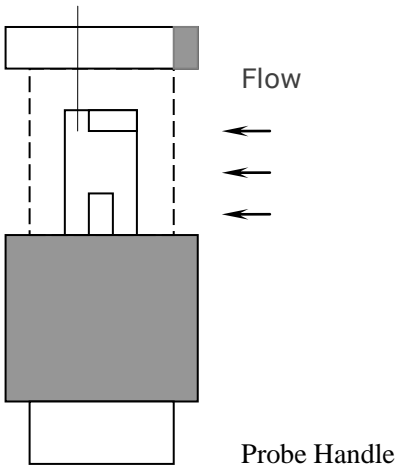
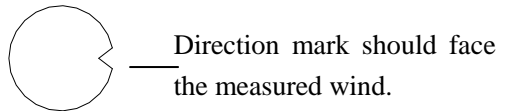

Fig.4
Fig.5
5. Slide the sensor cover to the down position, let the air velocity sensor to contact the air, refer Fig.2. Extend the telescope probe to the convenient length, refer Fig.4.
There is mark on the top of the “Sensor Head”, When make the measurement, then this mark should against the measured wind, refer Fig. 4, Fig5. When sensor head face against the measurement air, then the upper display will show the air velocity value. The lower display will show the temperature value.